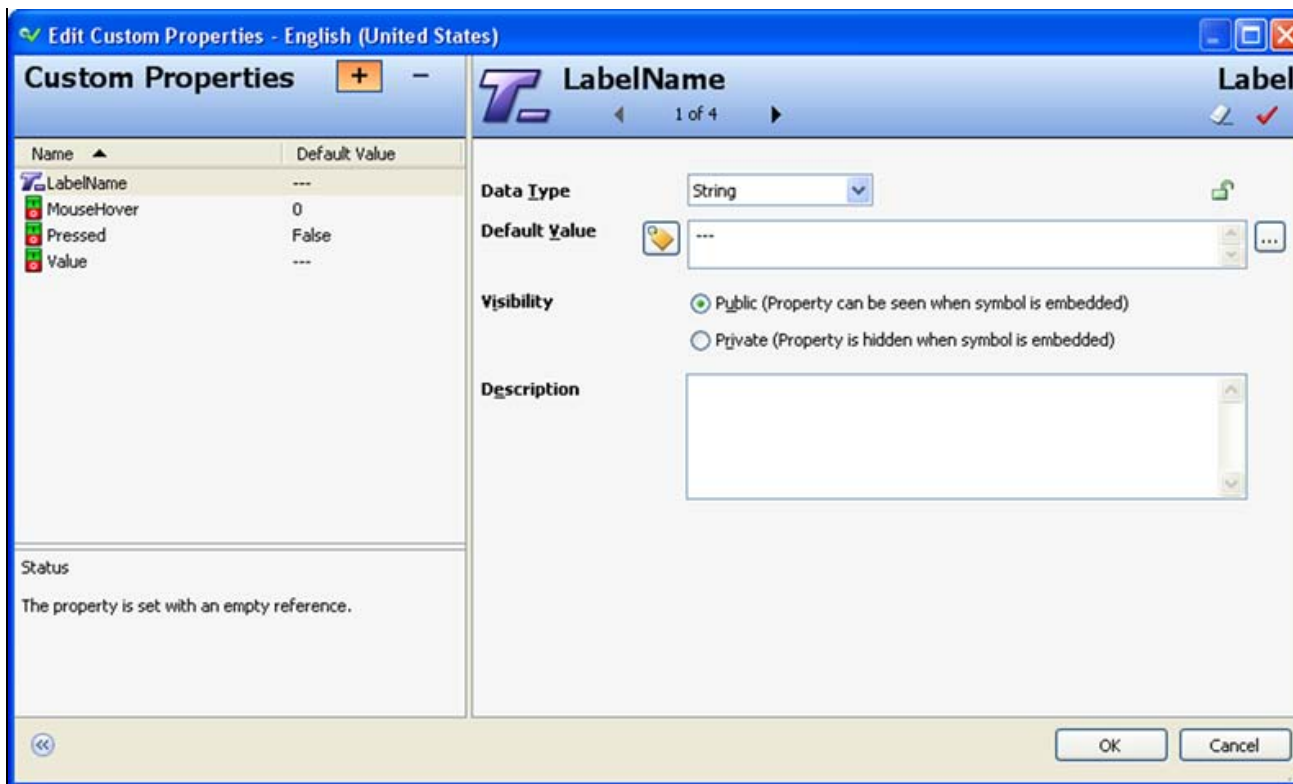

FIGURE 17: LABELNAME CUSTOM PROPERTY
4. Add a custom property called **LabelName** as a String data type (Figure 17 below).